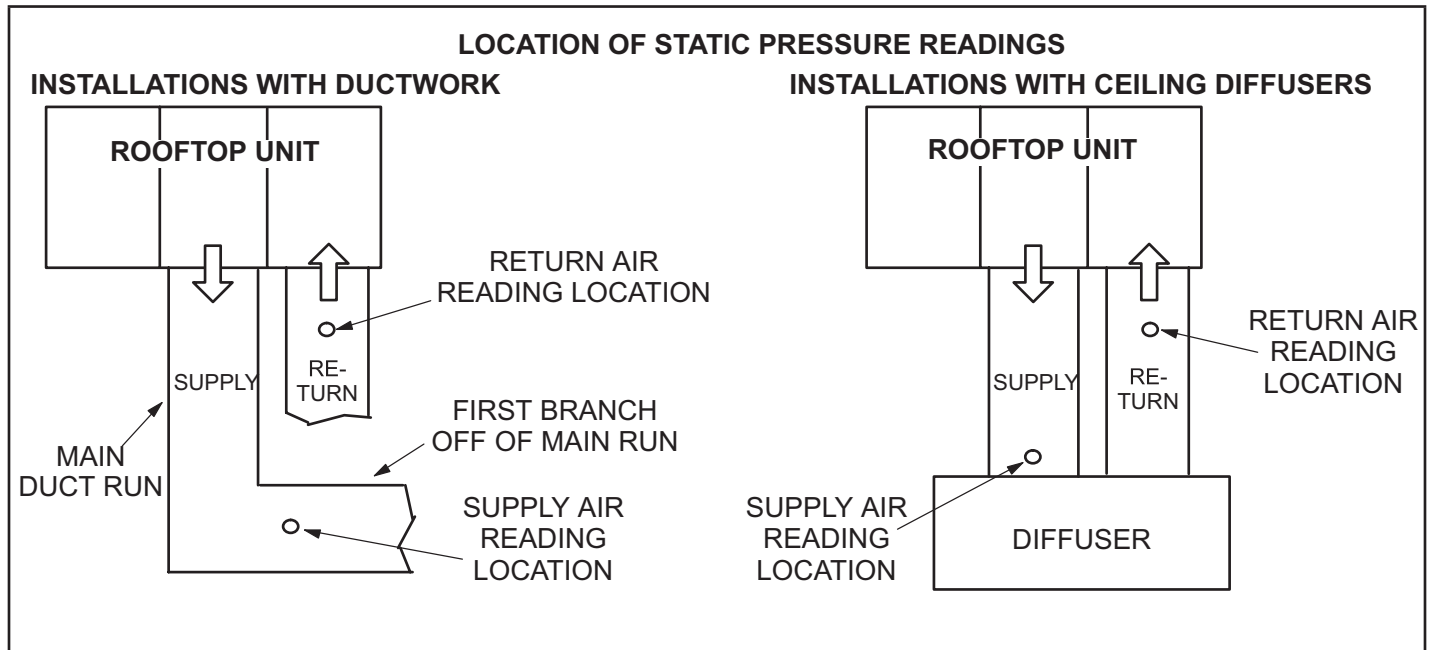

FIGURE 22
- 2 - With all access panels in place, measure static pressure external to unit (from supply to return). Blower performance data is based on static pressure readings taken in locations shown in FIGURE 22.
Flame rollout limits S47 on first heat section and S69 on second heat section are SPST N.C. high temperature limits located just above the burner air intake opening in the burner enclosures (see figure22). Both switches are wired to the A55 Unit Controller. When S47 or S69 senses flame rollout (indicating a blockage in the combustion air passages), the corresponding flame rollout limit trips and the ignition control immediately closes the gas valve. Limit S47 and S69 in standard heat units are factory preset to open at 290F ± 12F on a temperature rise, while on high heat units both limits open at 270F ± 12F on a temperature rise. All flame rollout limits are manual reset.